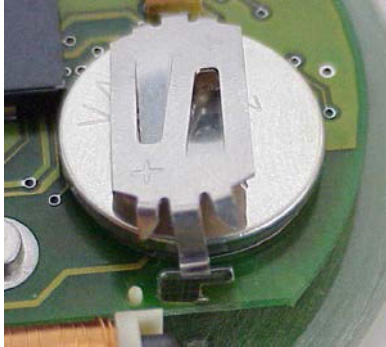

Fig 2
3. Carefully unfasten the battery holder on the circuit board (Fig. 2).
5. Insert the new batteries; the positive pole must point upwards (Fig. 2). Only use clean gloves free of fat or grease to handle the new batteries.